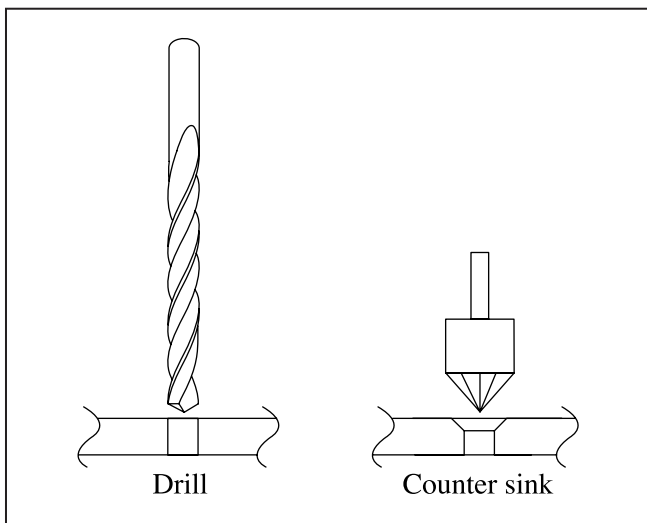

Figure 13. Drill and counter sink insert.
Step 3 - Drill and counter sink the screw holes in the table insert. Fasten the router base to the router table insert using the screws from the router sub-base. **Figure 13.**